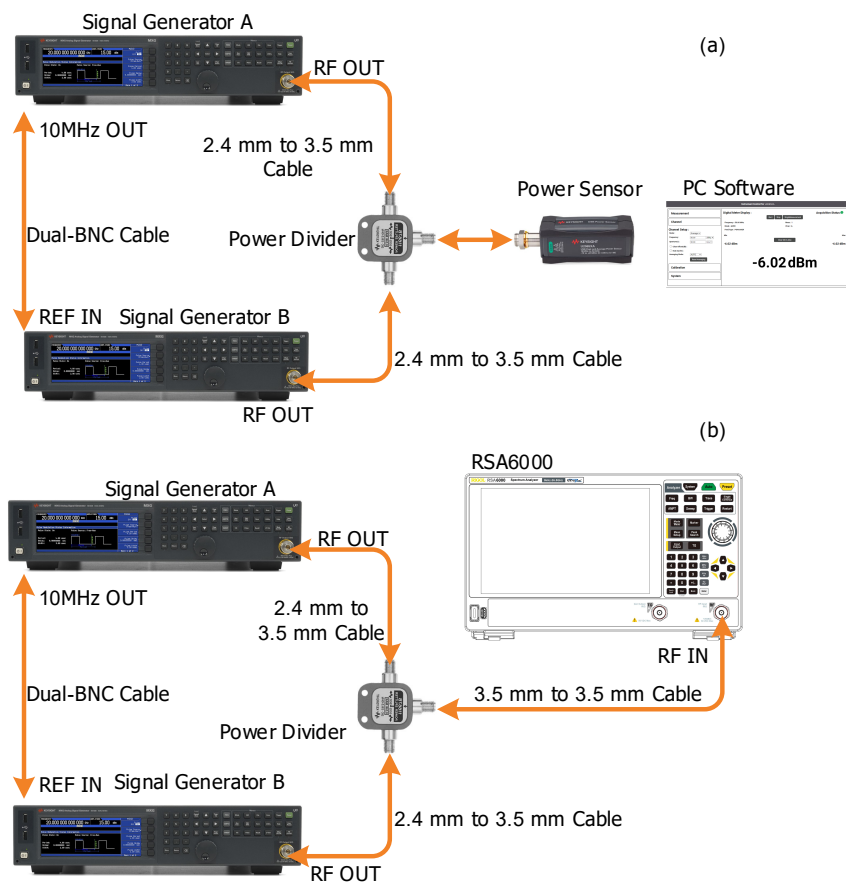

Figure 4.7 1 dB Gain Compression Test Connection Diagram
2. Synchronize the clock of the two signal generators. Connect the outputs of the two signal generators with the power divider. Then connect the power divider with the power sensor, as shown in *Figure 4.7 (a)*.
6. Disconnect the power divider from the power sensor; connect the power divider with the spectrum analyzer, as shown in *Figure 4.7 (b)*.